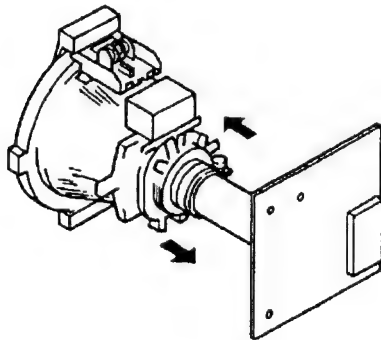

Fig. 3-1
(see Fig. 3-1 through 3-3.)
5. Move the deflection yoke forward and adjust so that entire screen is red. (See Fig. 3-1.)